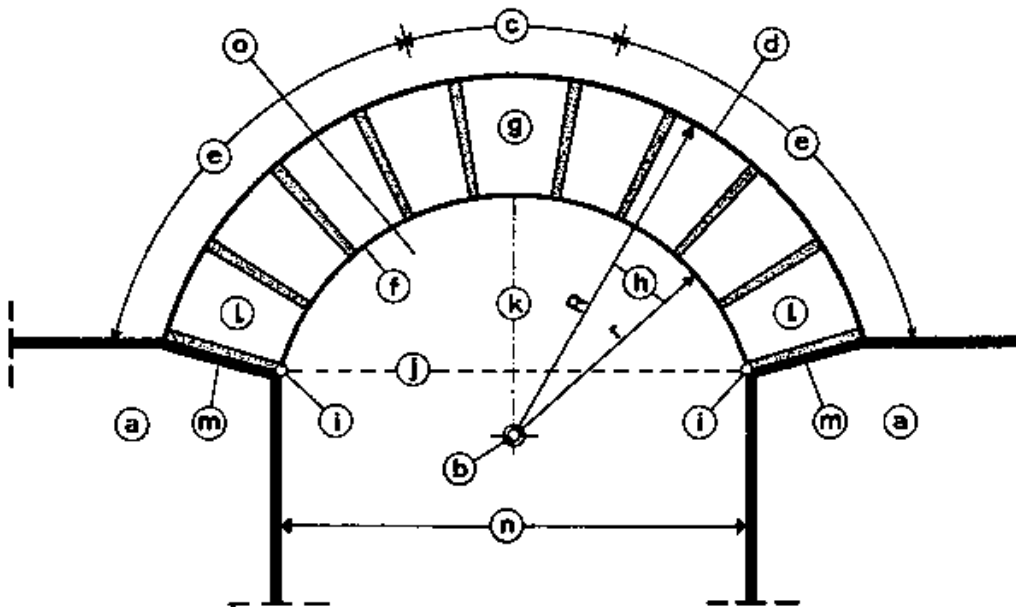

Fig. 1
Before we continue with this chapter, it is essential to understand the technical terms that are used in connection with arches. The terms below are indicated in Fig. 1.
- ABUTMENT: The word "abut" means to meet at one end or to border on something. An abutment (Fig. 1, a) is that portion of solid masonry that carries the weight of the structure of an arch. In Rural Building, the minimum width of an abutment at the end of a wall should be $\frac{3}{4}$ of the span of the arch. This means that the distance from the arch to the end of the wall should be at least $\frac{3}{4}$ of the span of the arch.